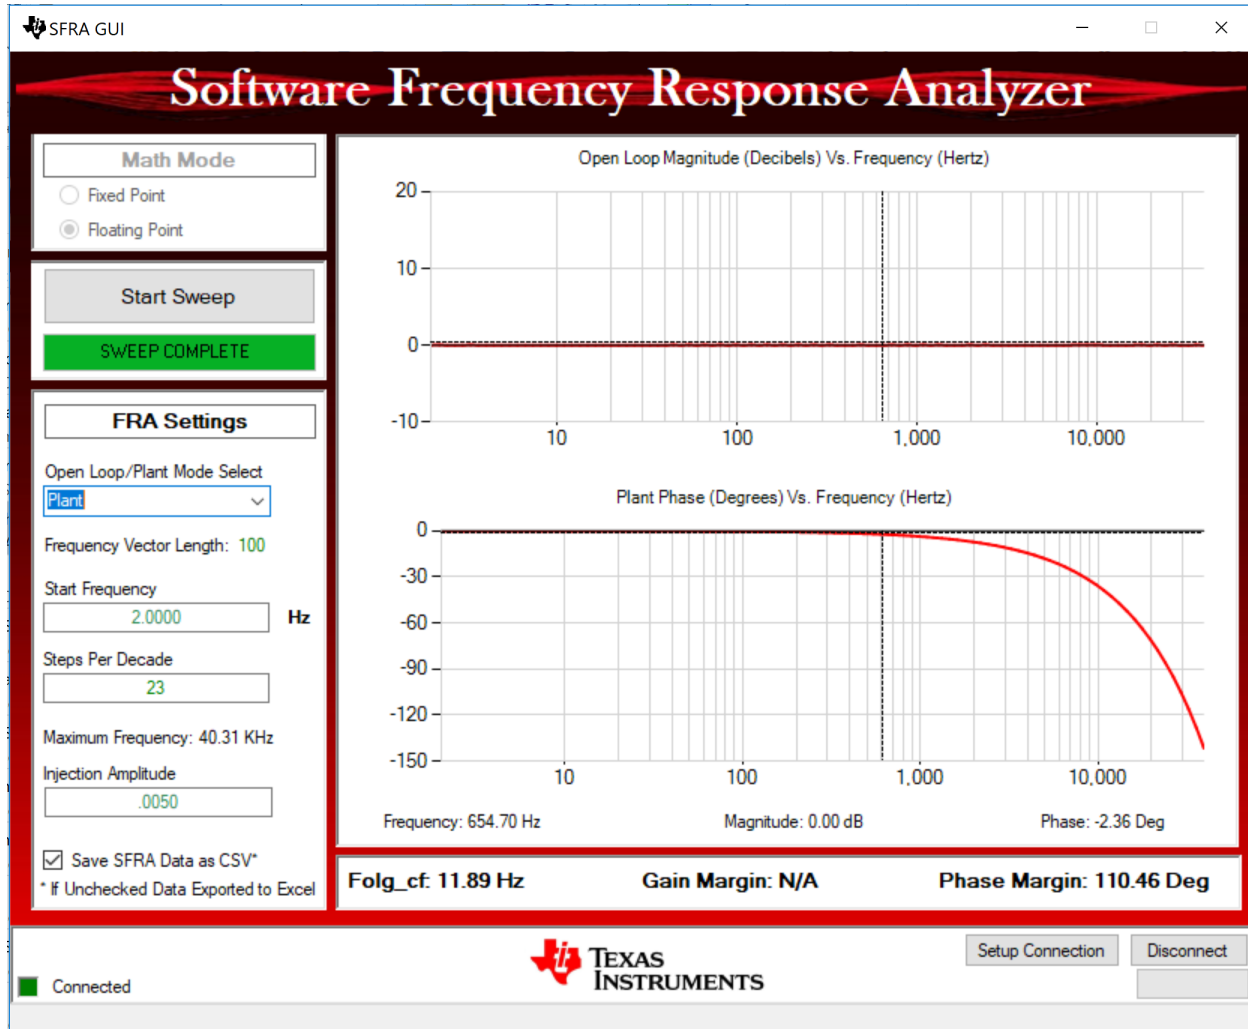
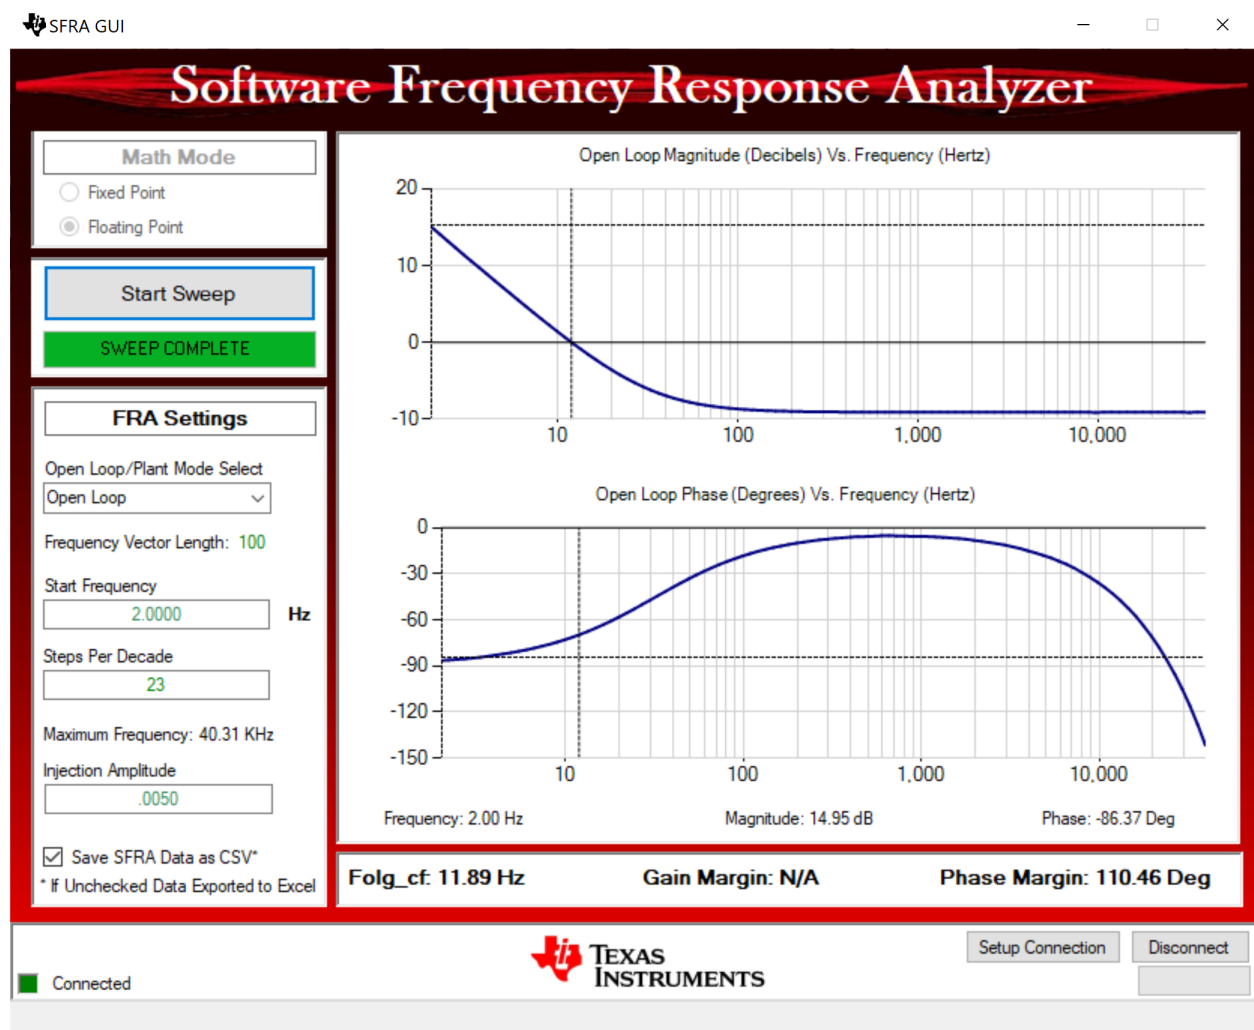

Figure 18. SFRA Plot for the Plant, After STB Example 1 Run
Figure 19. SFRA Plot for Open Loop After STB Example 1 Run
3. Open the SFRA GUI.exe as outlined in the section Section 5.1. Once the SFRA GUI is connected , start a sweep. Once finished the SFRA will display under open loop curve the plot for a simple PI compensator as shown in Figure 18 and the frequency response of a digital delay in the plant curve as shown in Figure 19.